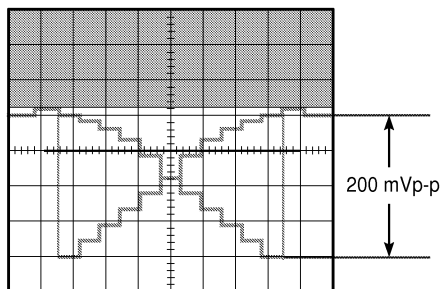

Fig. 4-2
- Set the Lens Iris so that the peak level of the Gray Scale from the Blanking level becomes 200 mVp-p as shown in Fig. 4-2.